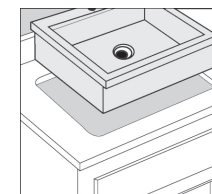

Figure 4
8. Apply a "rope of plumbers putty or caulk around the perimeter of the underside of the sink. Flip the sink over and carefully place it into the countertop opening, with all of the drains and attachments secured. Press down firmly to seat the sink against the countertop (Figure 4).